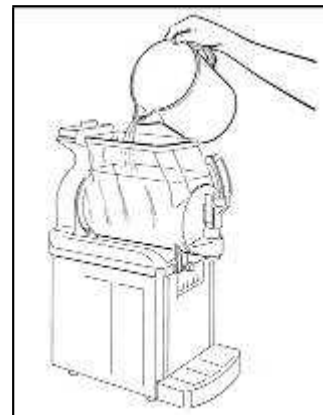

Рис. 25
- Pour lukewarm water into the bowl (Рис.25) and, after re-positioning the main cover, make sure the micro-switch is correctly activated.